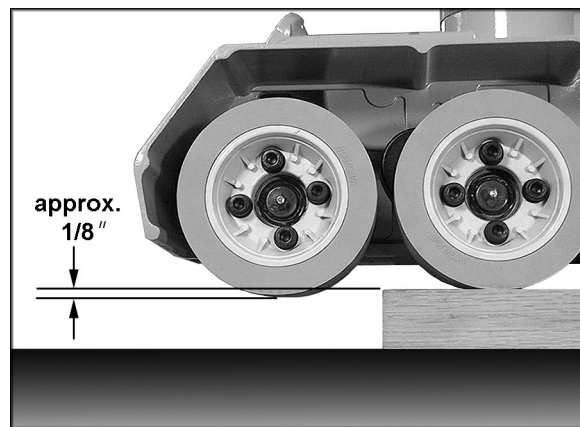

Figure 17
6. When used in horizontal position, the stock feeder should be adjusted for height so that the distance between the table and the feed rollers is approximately 1/8" (3mm) less than the thickness of the workpiece. See Figure 17.
- When mounting the Stock Feeder in edgewise position, keep in mind the spring tension of the rollers. The distance between the shaper fence and the feed rollers should be approximately $1/8"$ (3mm) less than the thickness of the workpiece (refer to Figure 17).